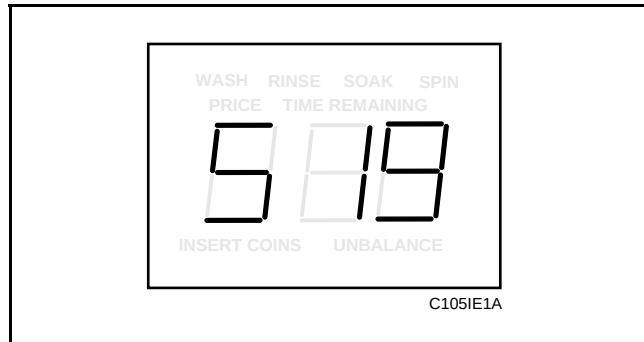

Figure 85
2. While pressing and holding the PERM PRESS keypad with one hand, press the COLD keypad with the other hand. Programmable option number one, “Slg”, will appear in the VFD. See **Figure 85**.